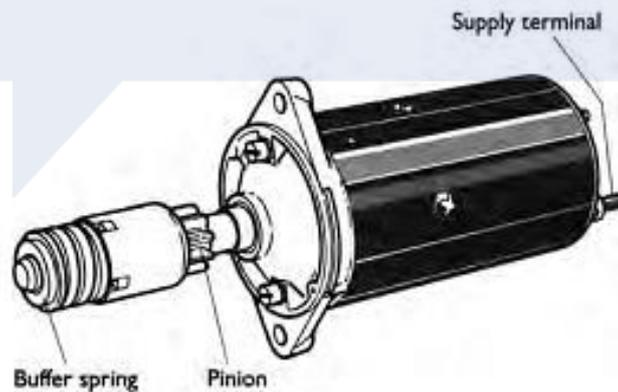

Figure 8
7. **Figure 8 shows a starter motor**
- 7.1 Identify the type of starter motor represented by Figure 8 above (1mark)